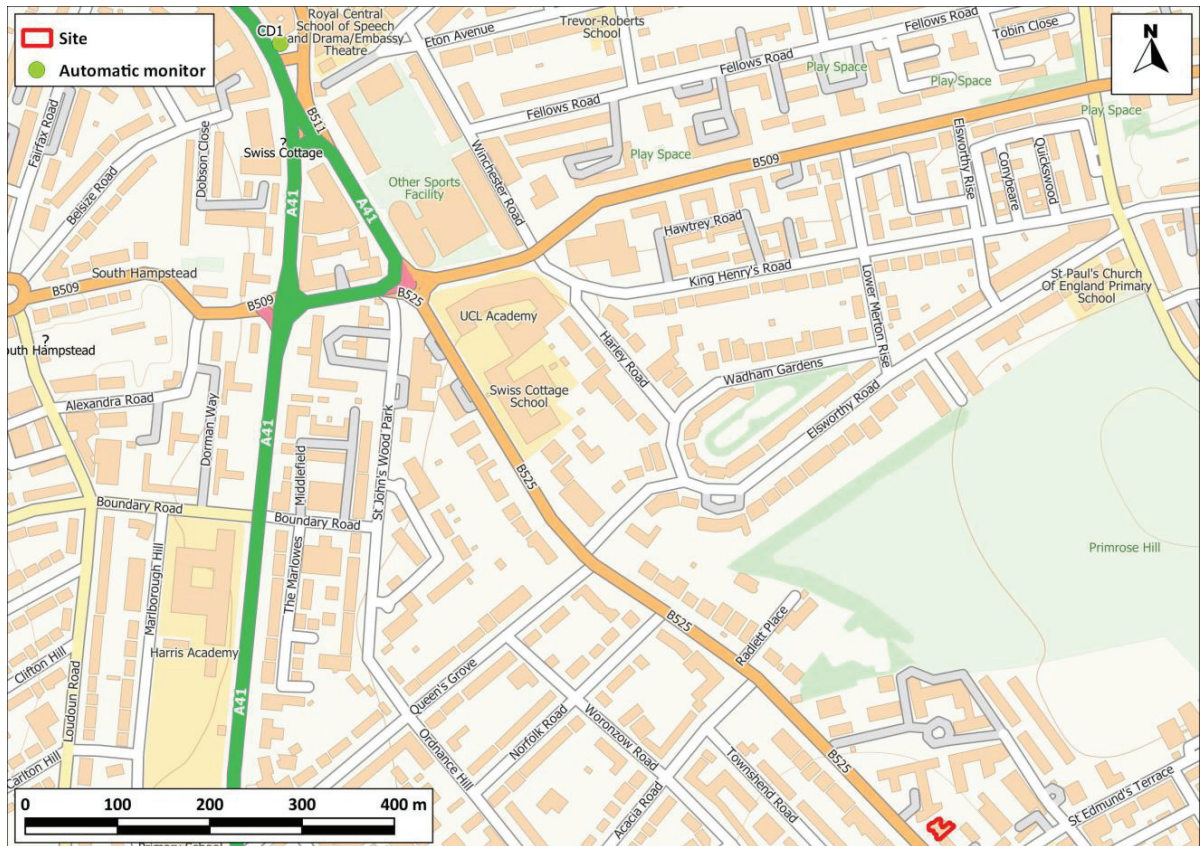

Figure 1: Monitoring Location
- 4.5 The London Borough of Camden operates three automatic monitoring stations within its area, one of which is located at Swiss Cottage, approximately 1 km from the Site. Results for the years 2013 to 2018 are summarised in Table 1 and the monitoring locations are shown in Figure 1.